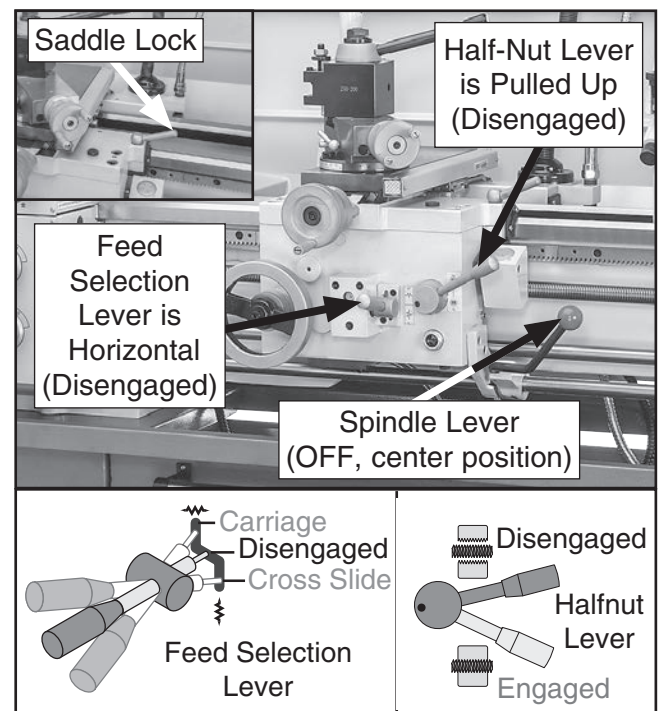

Figure 22. Apron controls.
5. Disengage half-nut lever and feed selection lever (see **Figure 22**), and make sure saddle lock is loosened to allow leadscrew or feed rod to move apron if required.
6. Make sure spindle lever is in the OFF (middle) position (see **Figure 22**).
11. Move spindle lever (see **Figure 22** on **Page 26**) downward to start lathe. Spindle will rotate at 70 RPM. Top of chuck should rotate down toward front of lathe.